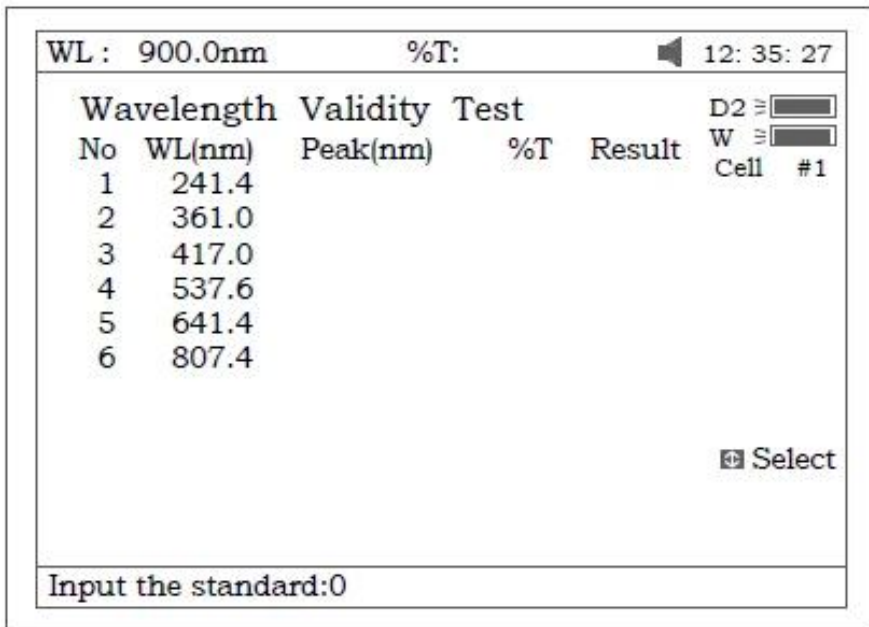

Figure 96
2. Press **【F1】** to set the standard peak. Press **【ENTER】** to edit and input wavelength by pressing the numeric keypad (Fig96).